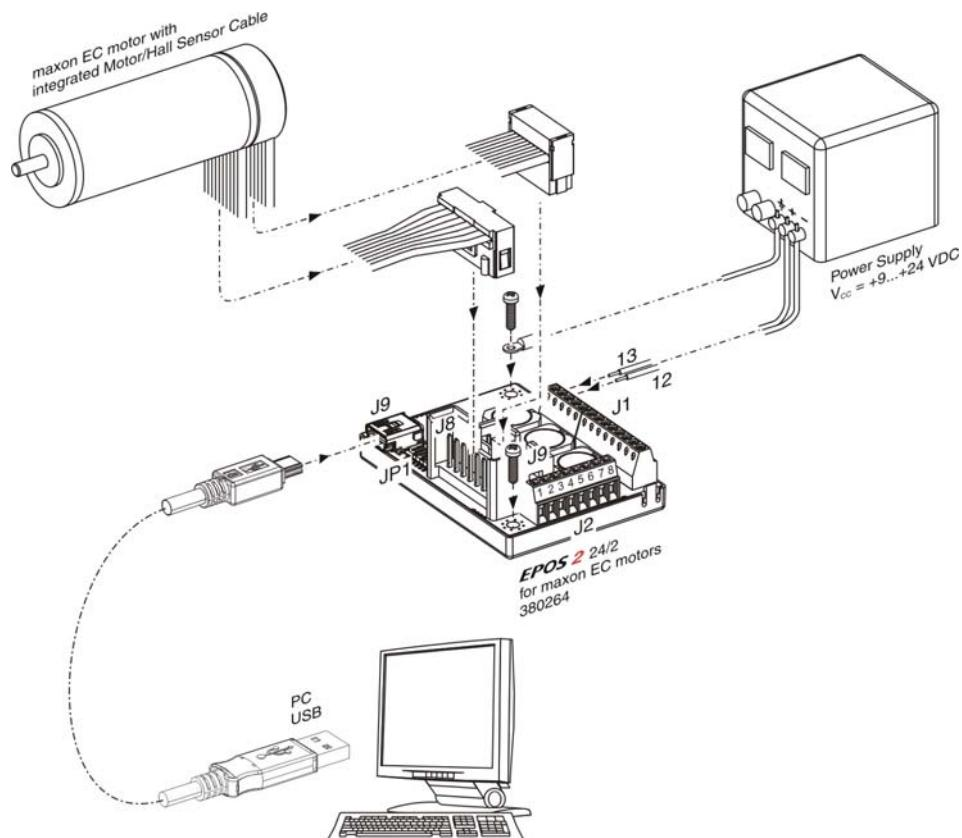

Figure 3-3 Minimum Wiring: maxon EC motor (integrated Motor/Hall Sensor Cable)
- 2) Connect maxon cable assemblies (→Table 3-5 and Figure 3-3).